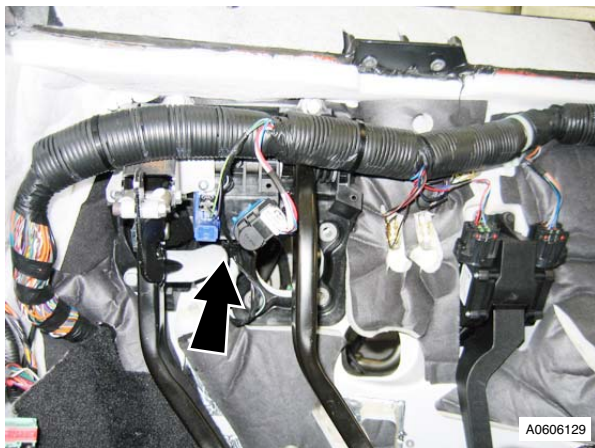

Fig. 1
2. Disconnect multiplug from stop lamp switch (see Fig. 1).